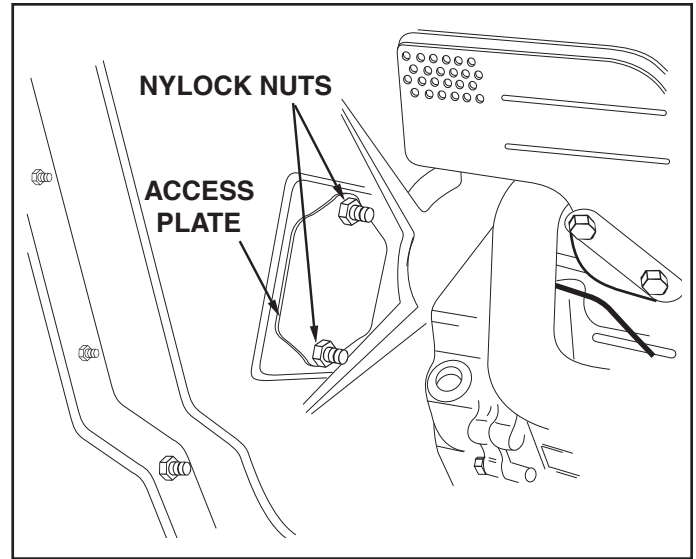

FIGURE 20
2. Remove the access plate by removing two hex lock nuts. See figure 20.